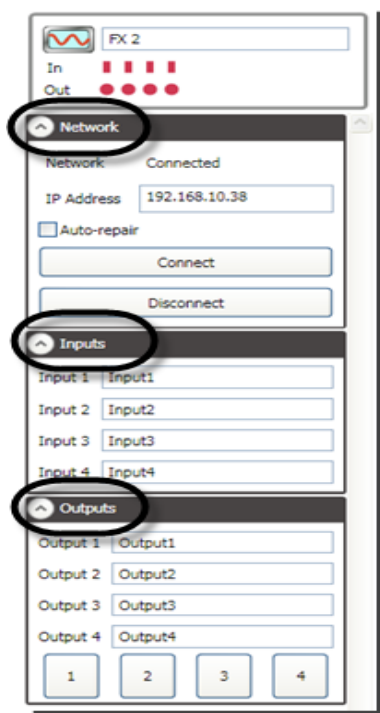

Figure 178
2. Once you have selected an FX in the **Cue Grid**, you can begin editing its parameters in the **FX Editing Pane**, the scrolling window on the right side of the Spikemark screen that contains sections of parameters grouped by function. You can collapse or expand these sections to show or hide the information (Figure 178).